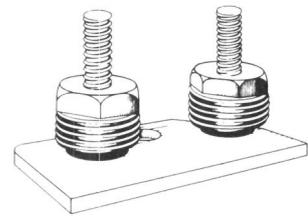

Fig. 63—5A Ground Strip
**7.06** The 5A ground strip (Fig. 63) consists of a brass plate with two binding posts. It is intended for use in 10- and 16-pair NC, NE, NF, and NH cable terminals. A hole is provided in